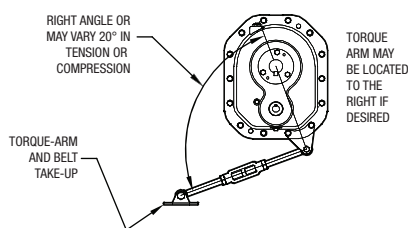

Figure 4 - Angle of Torque-Arm
7. Install torque arm fulcrum on a flat and rigid support so that the torque arm will be approximately at right angles to the centerline through the driven shaft and the torque arm anchor screw (Figure 4). Make sure that there is sufficient take-up in the turnbuckle for belt tension adjustment when using V-belt drive.